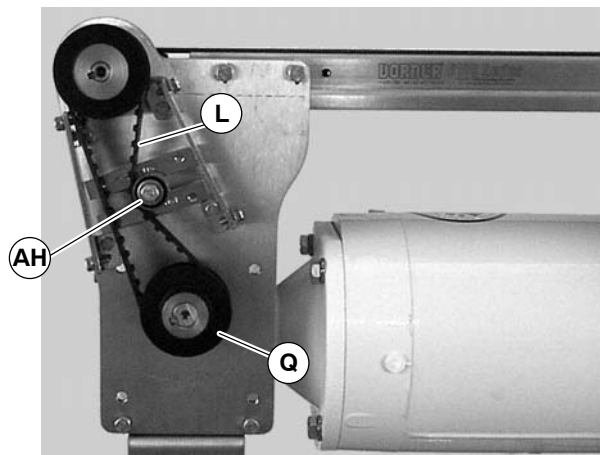

Figure 33
2. Loosen tensioner (AH of Figure 33).